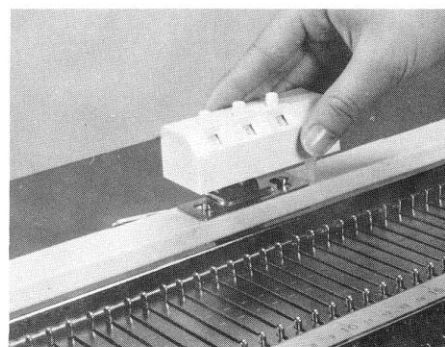

Fig.13
8. Place the row counter in position on the machine case. (Fig.13)